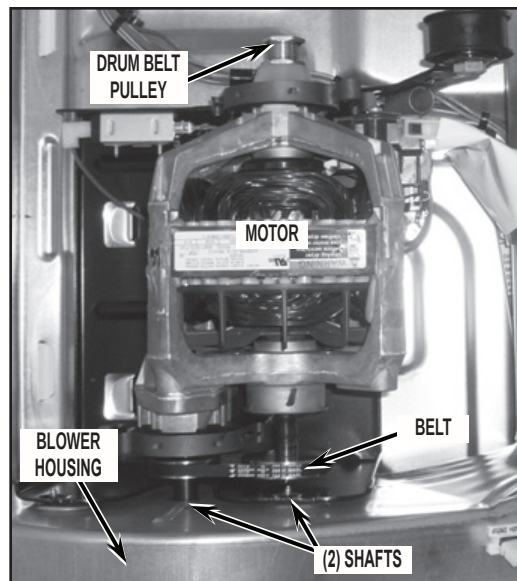
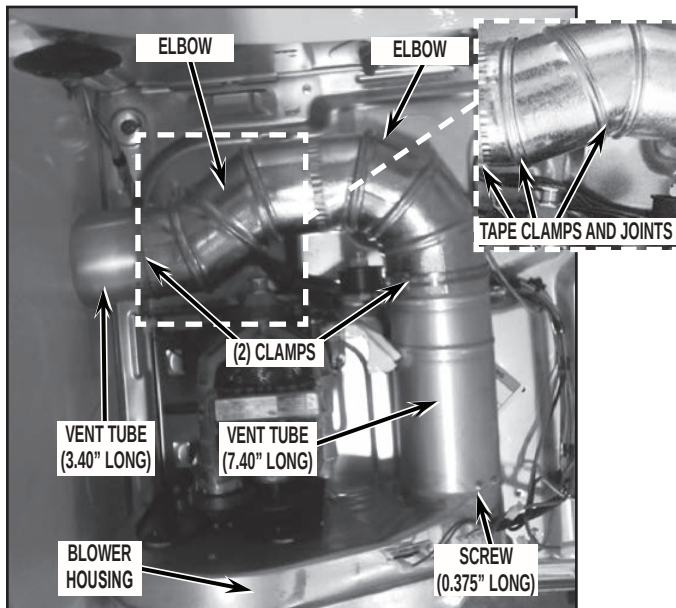

FIGURE 27
FIGURE 30A
IMPORTANT: Dryers with the long vent feature use step 5A. Dryers with the long vent feature can be identified by the configuration in *Figure 27*. Note the (2) shafts on the motor and the belt used between the shafts.
- 5A. (For dryers with the long vent feature, identified in *Figure 27*). Attach the second elbow and manipulate it to go around the belt pulley. Then use duct tape or aluminum tape (not included) to tape the joints of the elbows. See *Figure 30A*.